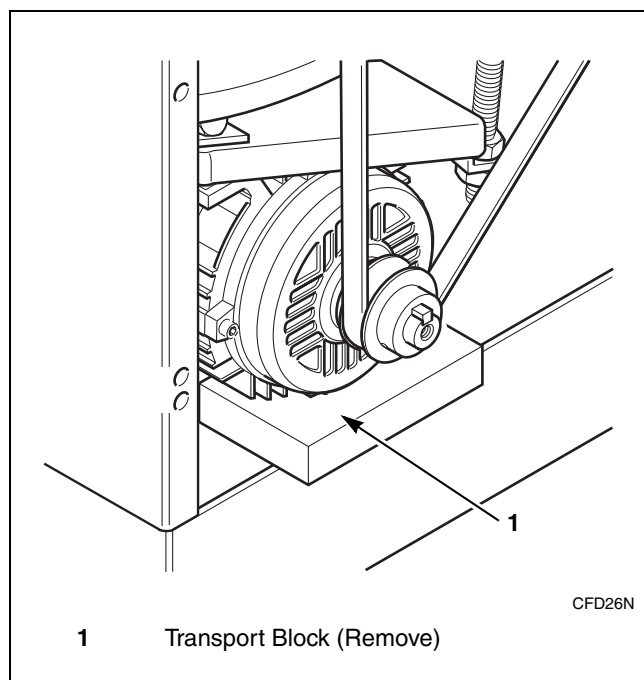

Figure 8
3. At rear of machine, lift at bottom of motor and remove transport block. Refer to *Figure 8*.